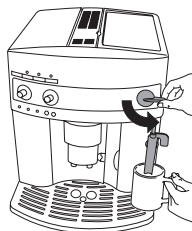

Figure 19
8. Immediately after (within a span of no more than 2 minutes, otherwise the machine automatically switches back to the espresso / coffee function), dip the milk frother into the container of milk (Figure 19).